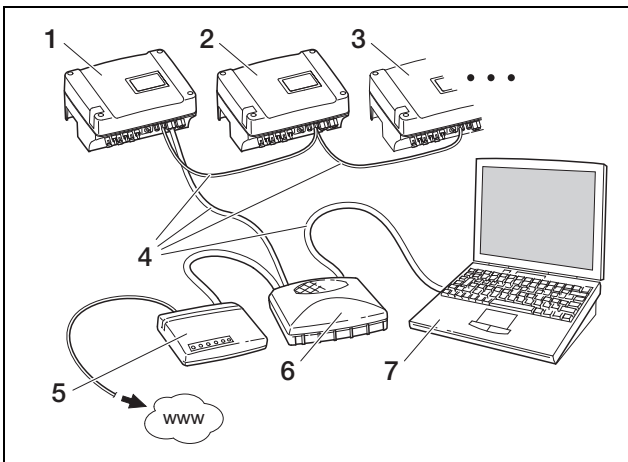

Fig. 56: Network settings with manual network configuration for external DSL router, subnet mask: 255.255.255.0, ☒ external router
- Or you operate the inverter through a DSL connection with router and want to connect to the inverter remotely via the router (figure 56).